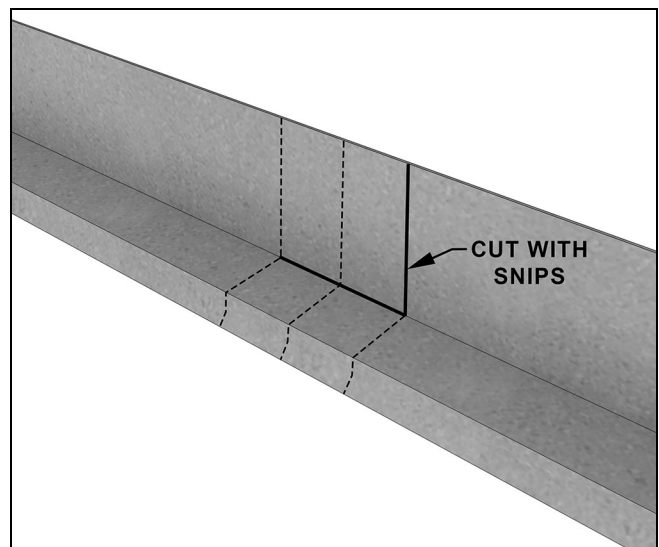

Figure 70
5. Cut the drip cap at the lines shown in Figure 70